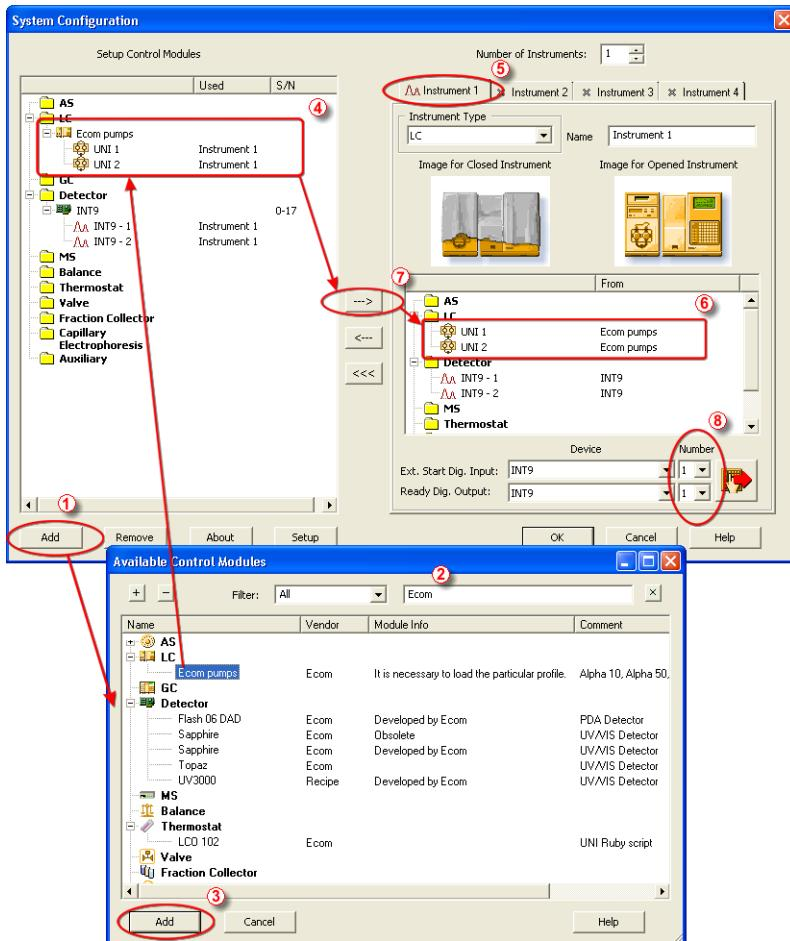

Fig 2: How to add **Ecom pumps**
Start the **Clarity** station by clicking on the icon on the desktop. Invoke the **System Configuration** dialog accessible from the **Clarity** window using the **System - Configuration...** command. Press the **Add** button ① (see Fig 2 on pg 6.) to invoke the **Available Control Modules** dialog. You can specify the searching filter ② to simplify the finding of the driver. Select the **Ecom pumps** item and press the **Add** ③ button.